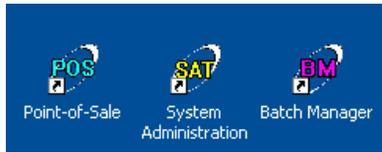

Figure 2.14
27. Upon a successful installation, three shortcut icons to the POS program (POS –Point-of-Sale, SAT – System Administration, and BM - Batch Manager) appears on the PC desktop (Figure 2.14). The version number can also be verified by signing on to the SAT, POS, or Batch Manager and clicking **'Help'**, **'About PCC OTC'** from the menu at top of the screen. Login and password data is retained during the upgrade so users can sign on to the system as they did before the upgrade.